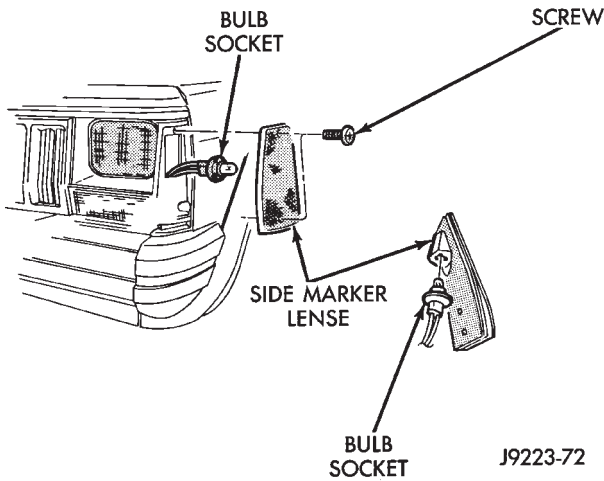

Fig. 3 Side Marker Lamp Removal/Installation
(2) Remove the screws, side marker lenses and the headlamp bezels from the grille opening panel (GOP) (Fig. 3).